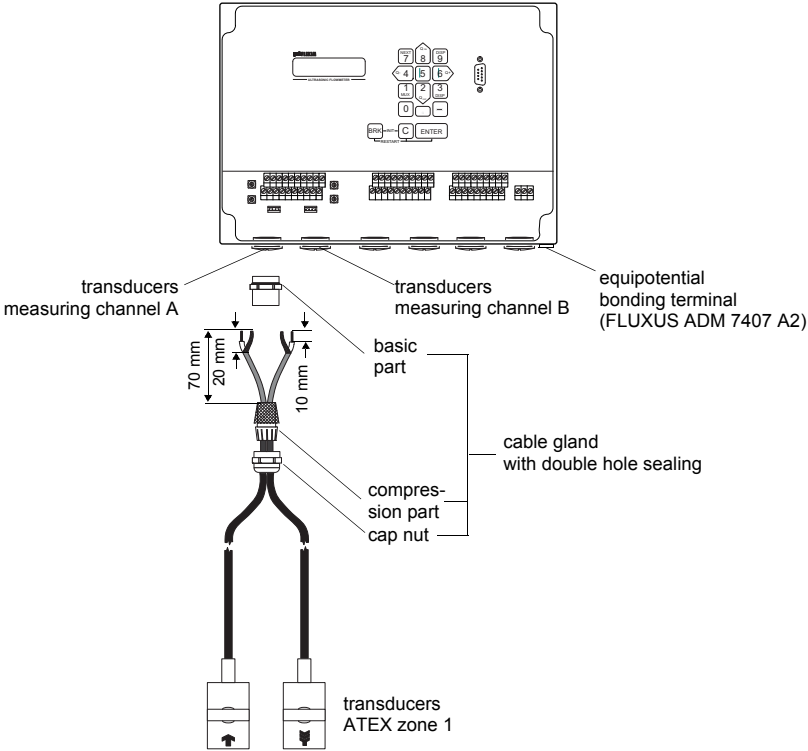

Fig. 5.9: Transducers (ATEX zone 1) - direct connection
- Remove the left blind plug for the connection of the transducers (see Fig. 5.9).
- Connect the leads to the terminals of the transmitter (see Fig. 5.9 and Table 5.6).